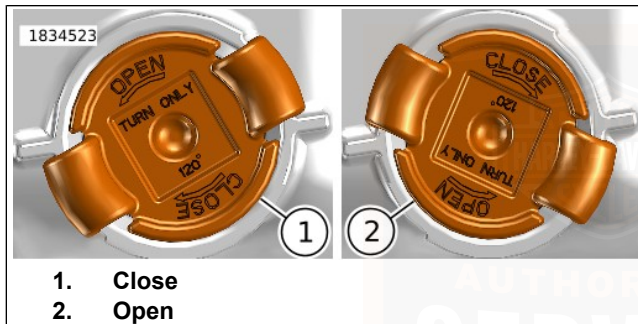

Figure 84. Drain Plug Orientation
- b. See Figure 84. Rotate engine oil drain plug counterclockwise to open (2) position.
- a. See Figure 84. Place engine oil drain plug in position open (2).
- b. Rotate engine oil drain plug clockwise to position close (1).